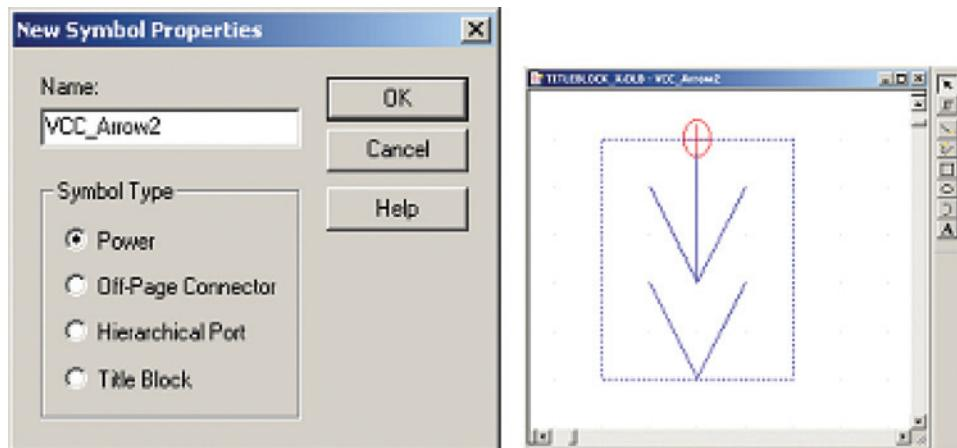
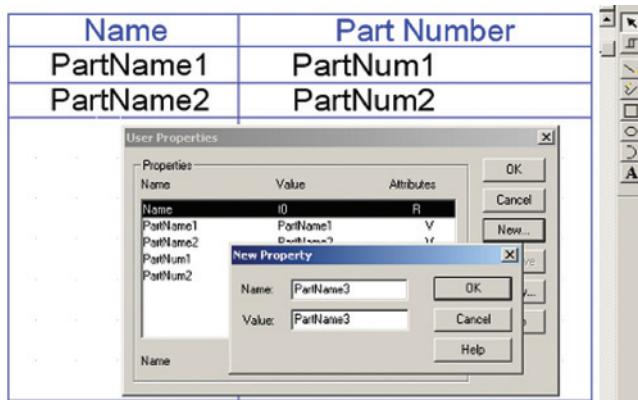

Figure 7-56 Making a new power symbol.
Figure 7-57 Example of a new title block used as a parts list.
**To make a new power symbol** open the **capsym.olb** library. Select the **Library** icon under the **Library** folder. From the **Design** menu, choose **New Symbol**. In the **New Symbol Properties** dialog box (Fig. 7-56), enter the name and select the appropriate radio button from the **Symbol Type** group box. Click **OK**. A part editing window and drawing toolbar will be displayed. Use the graphics tools to make the symbol. Close the editing window and save the symbol. Save and close the library.
**To make a new title block** open or make a new Capture library, select the **Library** icon, and from the **Design** menu select **New Symbols**. At the **New Symbol Properties** dialog box (Fig. 7-56) select **Title Block** and click **OK**. Just as with the power symbols, you will be presented with a part editing window. Use the graphics tools to construct the box (Fig. 7-57)